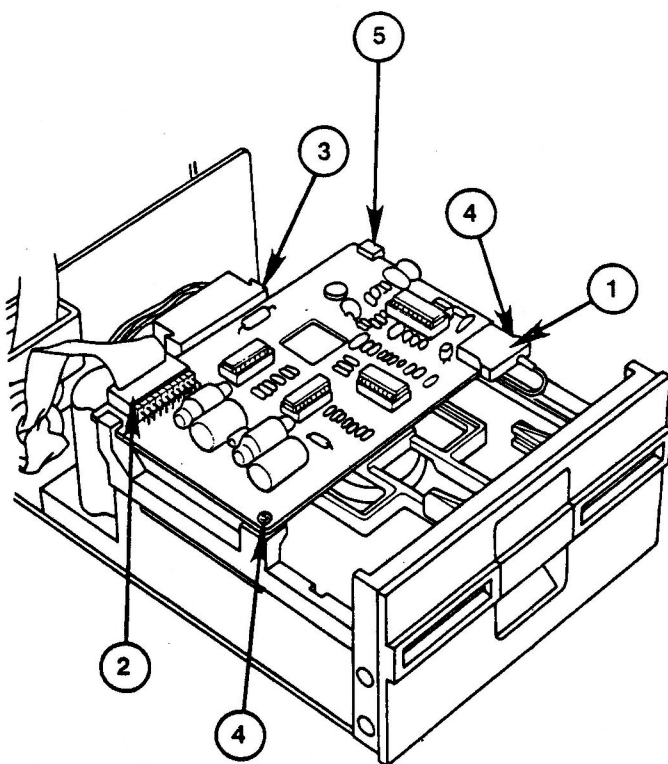

FIGURE 2
5.5	Internal Parts (Figure 2)
5. Reconnect the ribbon cable connector (Figure 2, #2) at the rear of the card, making sure that both rows of pins align with holes in the connector.